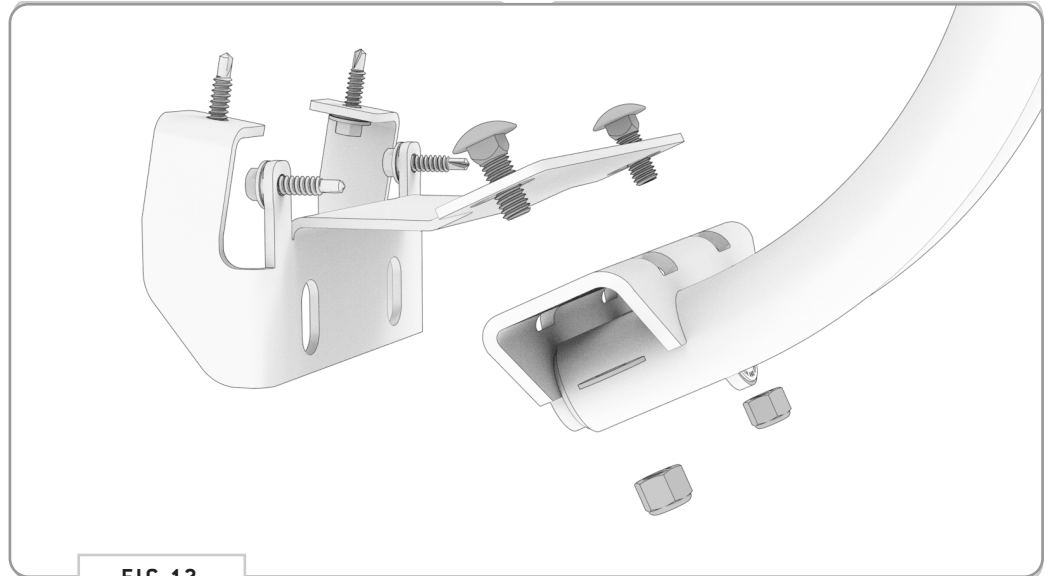

FIG 12
**4.1 Surf Pole to Hangar Bracket Mount:** Loosely attach your Surf Pole to the installed Surf Pole Hangar Bracket as shown (FIG 12) using the provided 3/8-16" Carriage Bolts, Flat Washers and Nylon Locknuts.